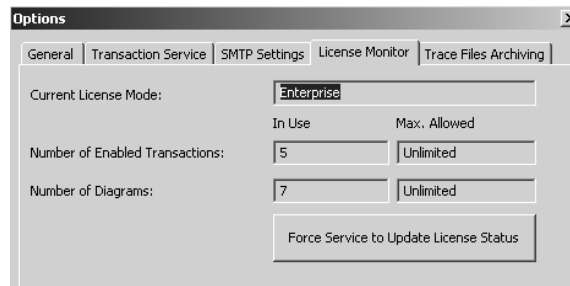

Figure L2.1 - Options Dialog: License Monitor Tab
2. The **License Monitor** tab of the **Options** dialog box, shown in Figure L2.1, displays information about your BridgeWorX license.